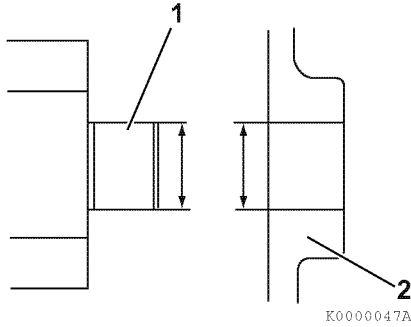

Figure 9-28
Determine the rotor shaft clearance. Measure the outside diameter of the rotor shaft (Figure 9-28, (1)) and the bore diameter in the gear case housing (Figure 9-28, (2)).